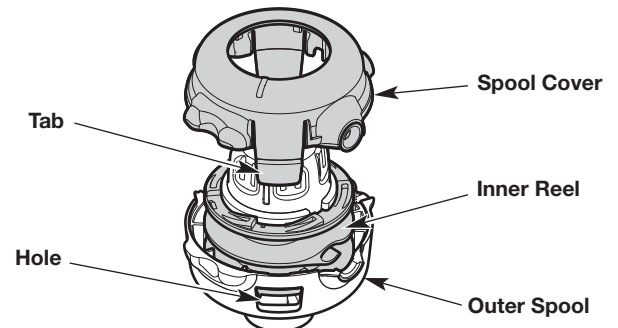

Fig. 22
- c. Gently tilt the screwdriver to unlock the tab from the hole (Fig. 22).
- e. Remove the spool cover (Fig. 22). **DO NOT** attempt to remove any other parts of the cutting head.
- g. Use a clean cloth to clean the inner reel, outer spool and spool cover (Fig. 22).
- h. Align the tabs on the spool cover with the holes on the outer spool (Fig. 22). Push the spool cover onto the outer spool until the tabs securely snap into the holes.